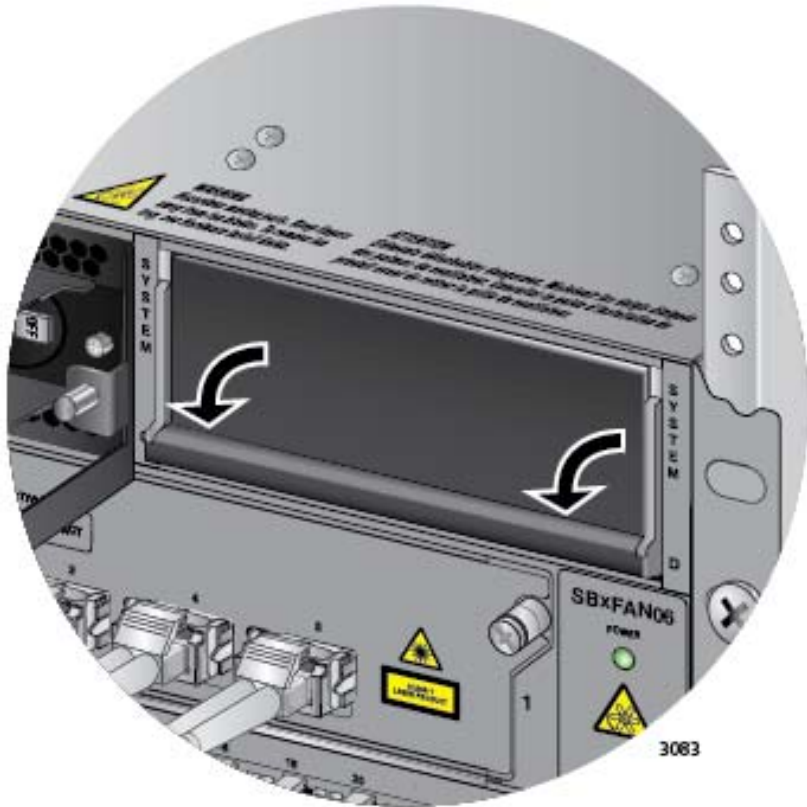

Figure 162. Lowering the Locking Handle on the Power Supply Slot Cover
14. Lower the locking handle to secure the slot cover to the slot. Refer to Figure 162 on page 247.